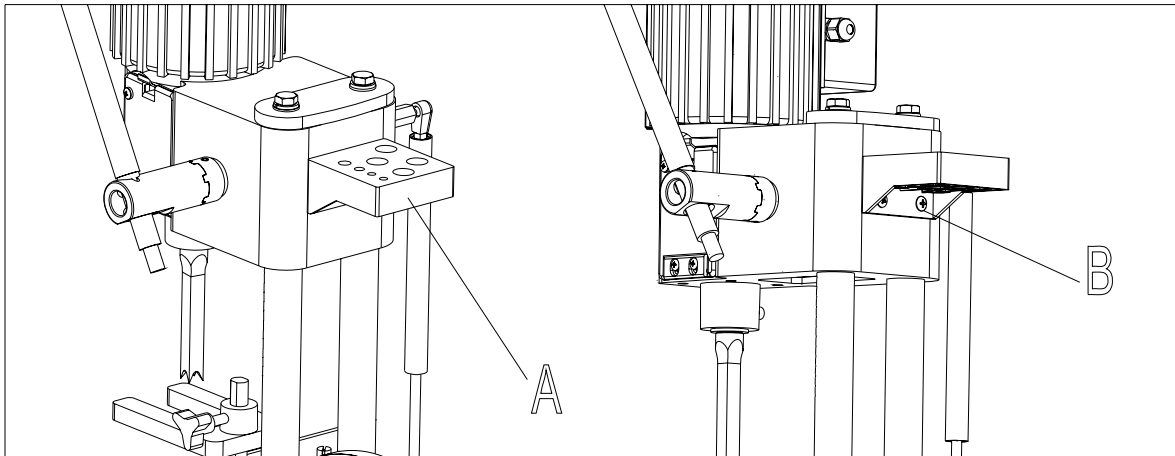

Fig 8
1. Assemble tool and chisel holder (A) Fig. 8, to side of column using the two M6x1x25mm screws (B) and M6 flat washers as shown.
2. Illustrates the chuck key, wrench and chisels and bits in holes of tool and chisel holder (A) when not in use.